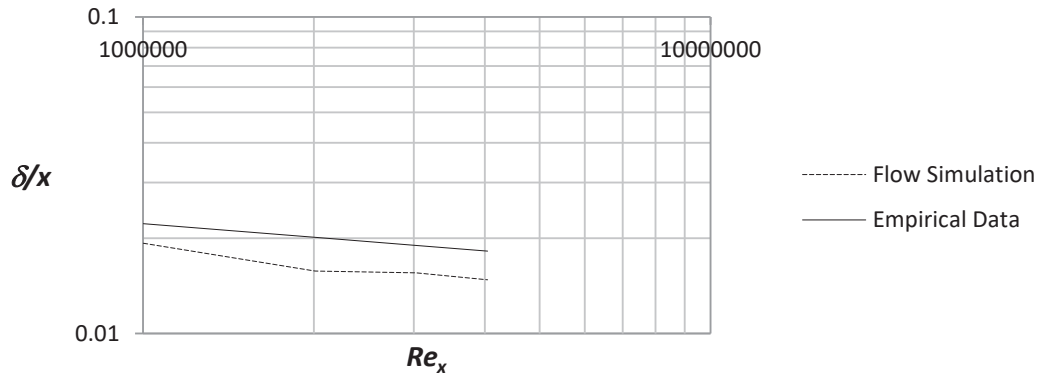

Figure 2.30b) Boundary layer thickness for turbulent boundary layers at $Re_x = 10^6 - 4.04 \cdot 10^6$
Place the file “**graph 2.30b**” on the desktop. Repeat step **24** and choose the sketch **x = 0.2, 0.4, 0.6, 0.8 m** and check the box for **Velocity (X)**. Rename the *xy*-plot to **Turbulent Boundary Layer Thickness**. An Excel file will open with a graph of the boundary layer thickness versus the Reynolds number, see figure 2.30b).